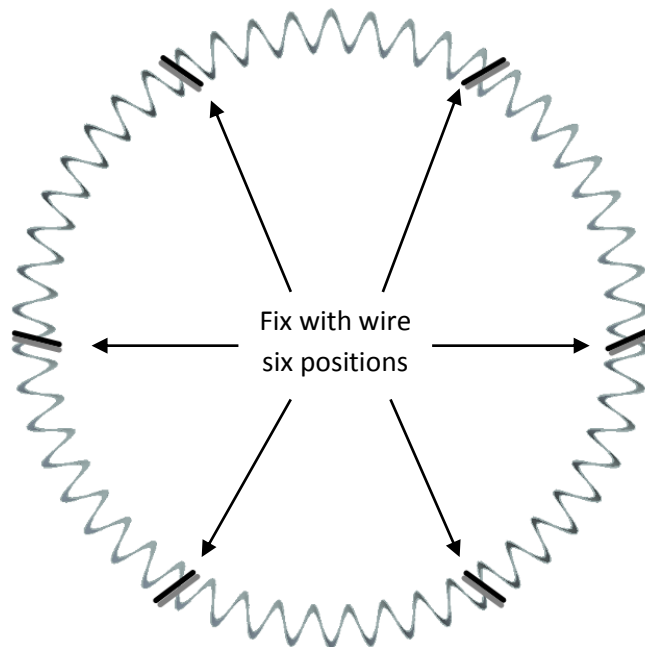

Figure 5: Wire fixing positions
When a coil has been successfully completed it must be secured with wire to ensure that it does not become undone during handling and shipping. It is suggested that **2mm Black baling wire** is used for this purpose. Firstly, fasten the loose ends of the coil to the coil itself using wire. Then, while the coil is still on the mandrel, add wire loops at six positions on the coil as shown in Figure 5.
7. Repeat this at the six positions as shown in Figure 5.